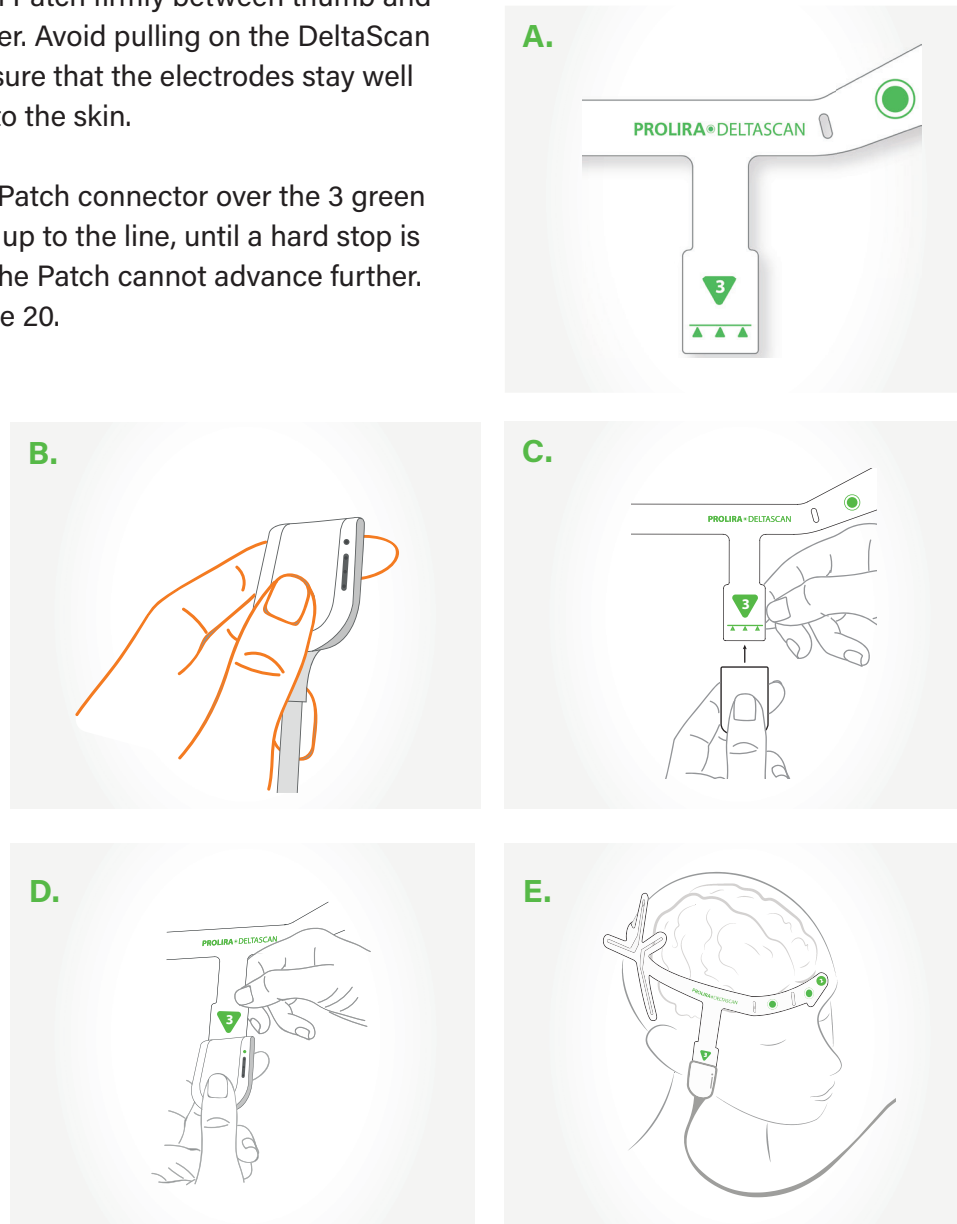

Figure 20:
- Slide the Patch connector over the 3 green triangles, up to the line, until a hard stop is felt, and the Patch cannot advance further. See Figure 20.
- E) The Patch is now well connected. The Connection-LED should now be green (see Figure 20).